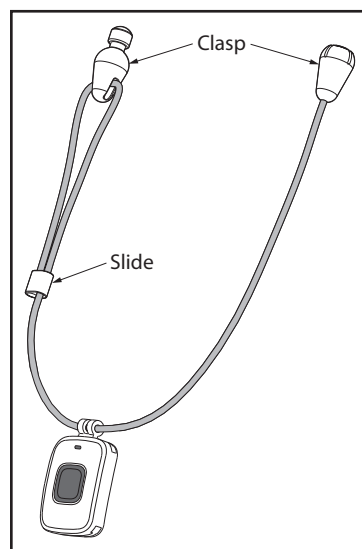

Figure 4: 1148 Personal Pendant with Lanyard
2. Place the lanyard around your neck and snap together the break-away clasp. See Figure 4.
3. Adjust the length of the lanyard to fit using the slide. See Figure 4.